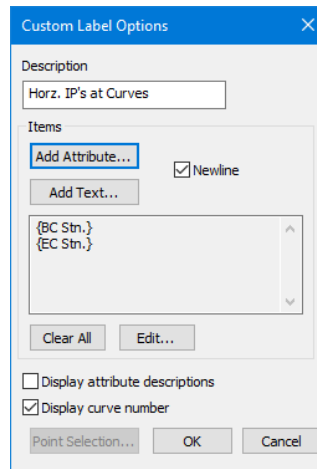

Figure 21-5: Displaying *Horizontal IP's* Labels at Curves
12. Click on the *Add Attribute* button and then add **BC Station** and **EC Station** as shown below in Figure 21-5.